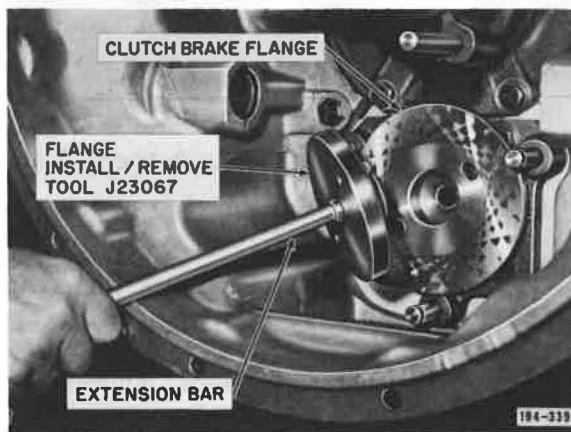

Figure 5-135. Removing Clutch Brake Flange
3. Remove clutch brake flange screw (left-hand thread). Using tool J-23067, remove clutch brake flange. See Figure 5-135.